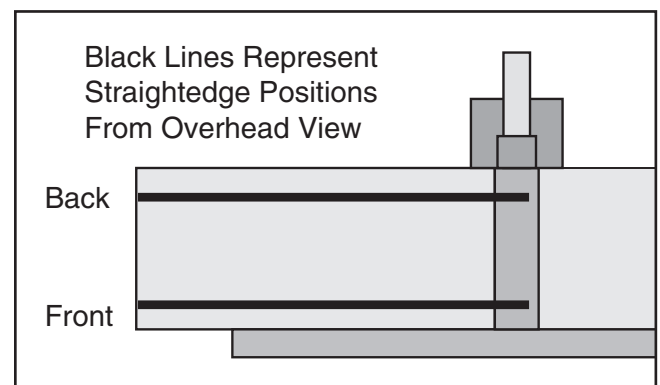

Figure 58. Straightedge positions for verifying if the outfeed table is parallel with the cutterhead.
3. Place the straightedge on the back of the outfeed table so it hangs over the cutterhead as shown in **Figure 58**.